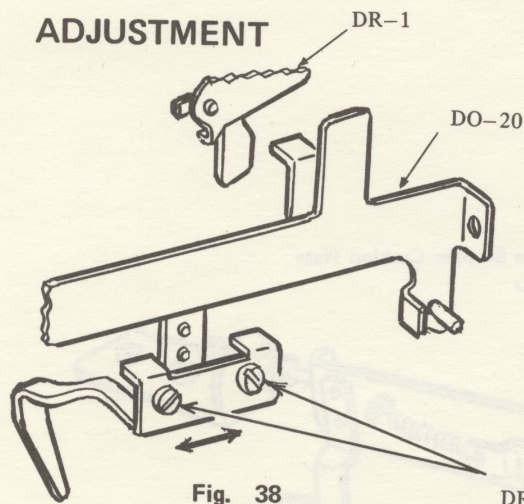

Fig. 38
- (1) Adjust the position of Carriage Stopper Cushion Plate by loosening DO-39 (Screw) so that the clearance ① between DR-1 and Carriage Stopper Cushion Plate under positioning of the Carriage is selected 1 character prior to the scale mark indicated by DR-1 (Margin Stopper: right) is 0 to 0.1 mm. (Fig. 38, 39)